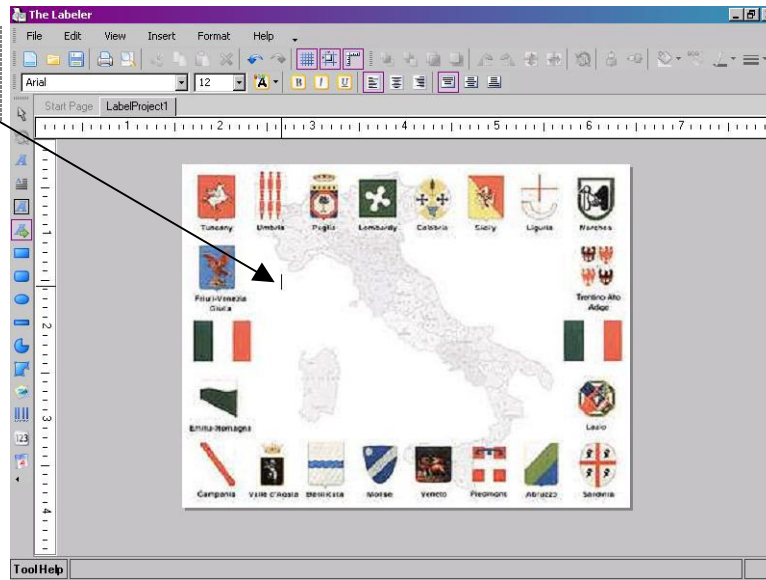

Figure 3.4.4.2: Default Size Bounded Text
- Type the text in that you wish to be shown on the label (see Figure 3.4.4.3).